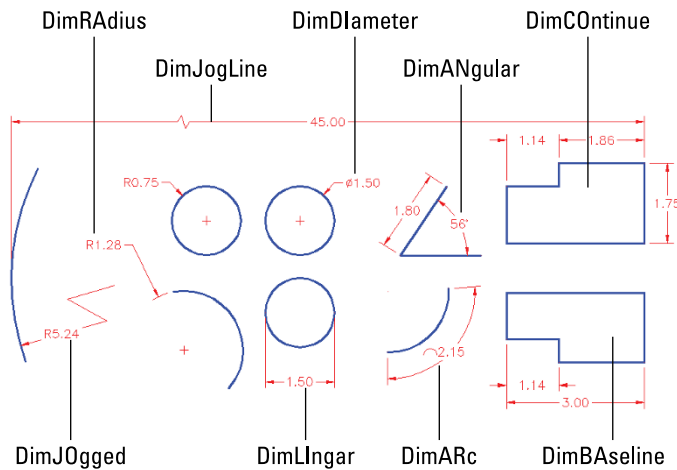

FIGURE 14-1:
AutoCAD provides several types of dimensions and commands with which to draw them; most commands are shown in Figure 14-1. These commands are found on the Dimensions panel of the Annotate tab on the Ribbon. If you can't find the button you want, it's probably hidden in the drop-down list, under the larger button on the left side of this panel. This panel remembers the last button you used, so at any given time, it may be displaying any one of the following buttons.
- » **Radial — DimDiameter (DDI), DimRadius (DRA):** A diameter dimension calls out the diameter of a circle or an arc, and a radius dimension shows the radius of a circle or an arc. You can position the dimension text inside or outside the curve; refer to Figure 14-1. If you position the text outside the curve, AutoCAD draws (by default) a little cross at the center of the circle or arc. AutoCAD automatically adds the diameter and radius symbols to the appropriate dimension type.
»» **Dimension lines:** In linear dimensions, indicate the true distance between points. Angular dimensions have curved dimension lines with the center of the curve at the vertex point of the objects being dimensioned. For radius and diameter dimensions, the dimension line simply points at or through the center of the object being dimensioned. See Figure 14-1 for examples of these dimension types.